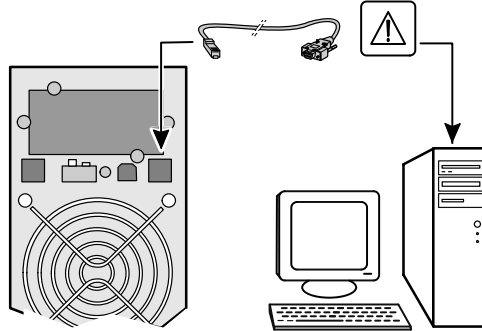

Figure 20. The USB Port
1. The USB port is hot-pluggable. Connect the USB cable to the USB port on the UPS rear panel (see Figure 20).